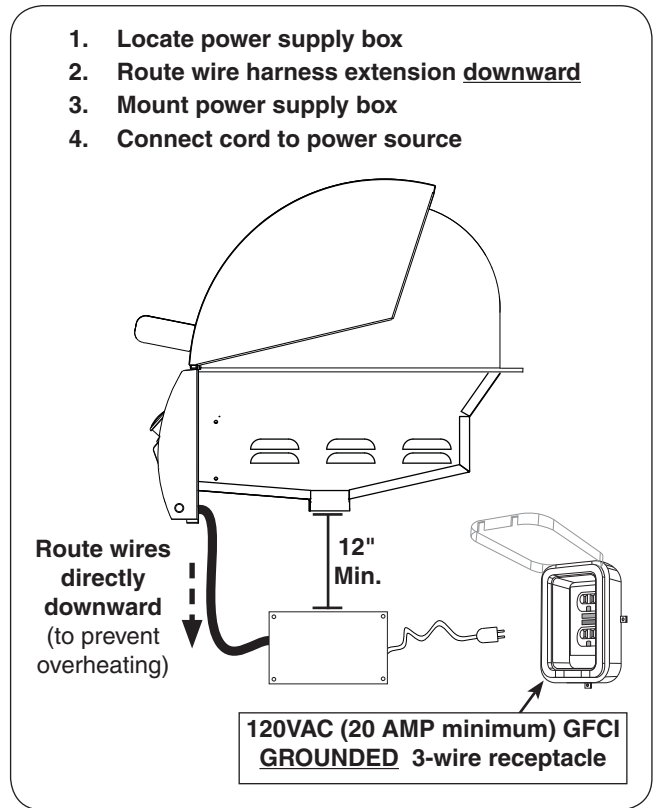

Fig. 24-1 Electrical installation
1. It MUST be located at least 12 inches below the bottom of the grill (see Fig. 24-1).
2. The wire extension that exits from the control panel MUST be routed directly downward. This will prevent overheating. **DO NOT** route the wire extension below the grill (see Fig. 24-1).
3. Mount the power supply box to the inside of the enclosure using appropriate hardware for your enclosure (see Fig. 24-1).
4. Connect the cord coming from the unit's power supply to a **120VAC (15 AMP minimum) GFCI GROUNDED 3-wire receptacle** (see Fig. 24-1). The GFCI receptacle must be a WEATHER-PROOF IN-USE COVERED RECEPTACLE.